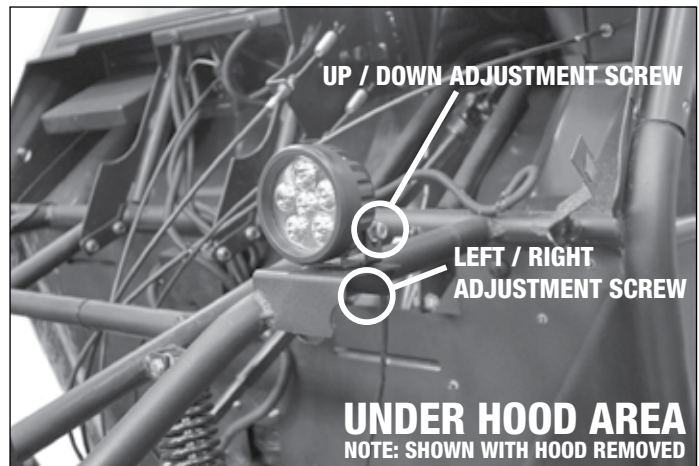

figure 4.16 (headlight adjustment screw locations)
- For the REAR of the vehicle, place a straight edge (or 2' level) placed vertically at the 12 and 6 o'clock position. Using a digital or dial type angle gauge, adjust the wheel end to achieve 2 deg POSITIVE camber (top of wheel outboard slightly) by rotating the radius arms to the correct position. DO NOT tighten the radius arm fasteners until the TOE adjustments have been made. (REF FIG 4.16)
The headlights on your vehicle are sealed LED lights and must be replaced if damaged as a complete assembly. Headlight adjustment is achieved by loosening the fasteners as shown in figure 4.16, adjusting and re-tightening.